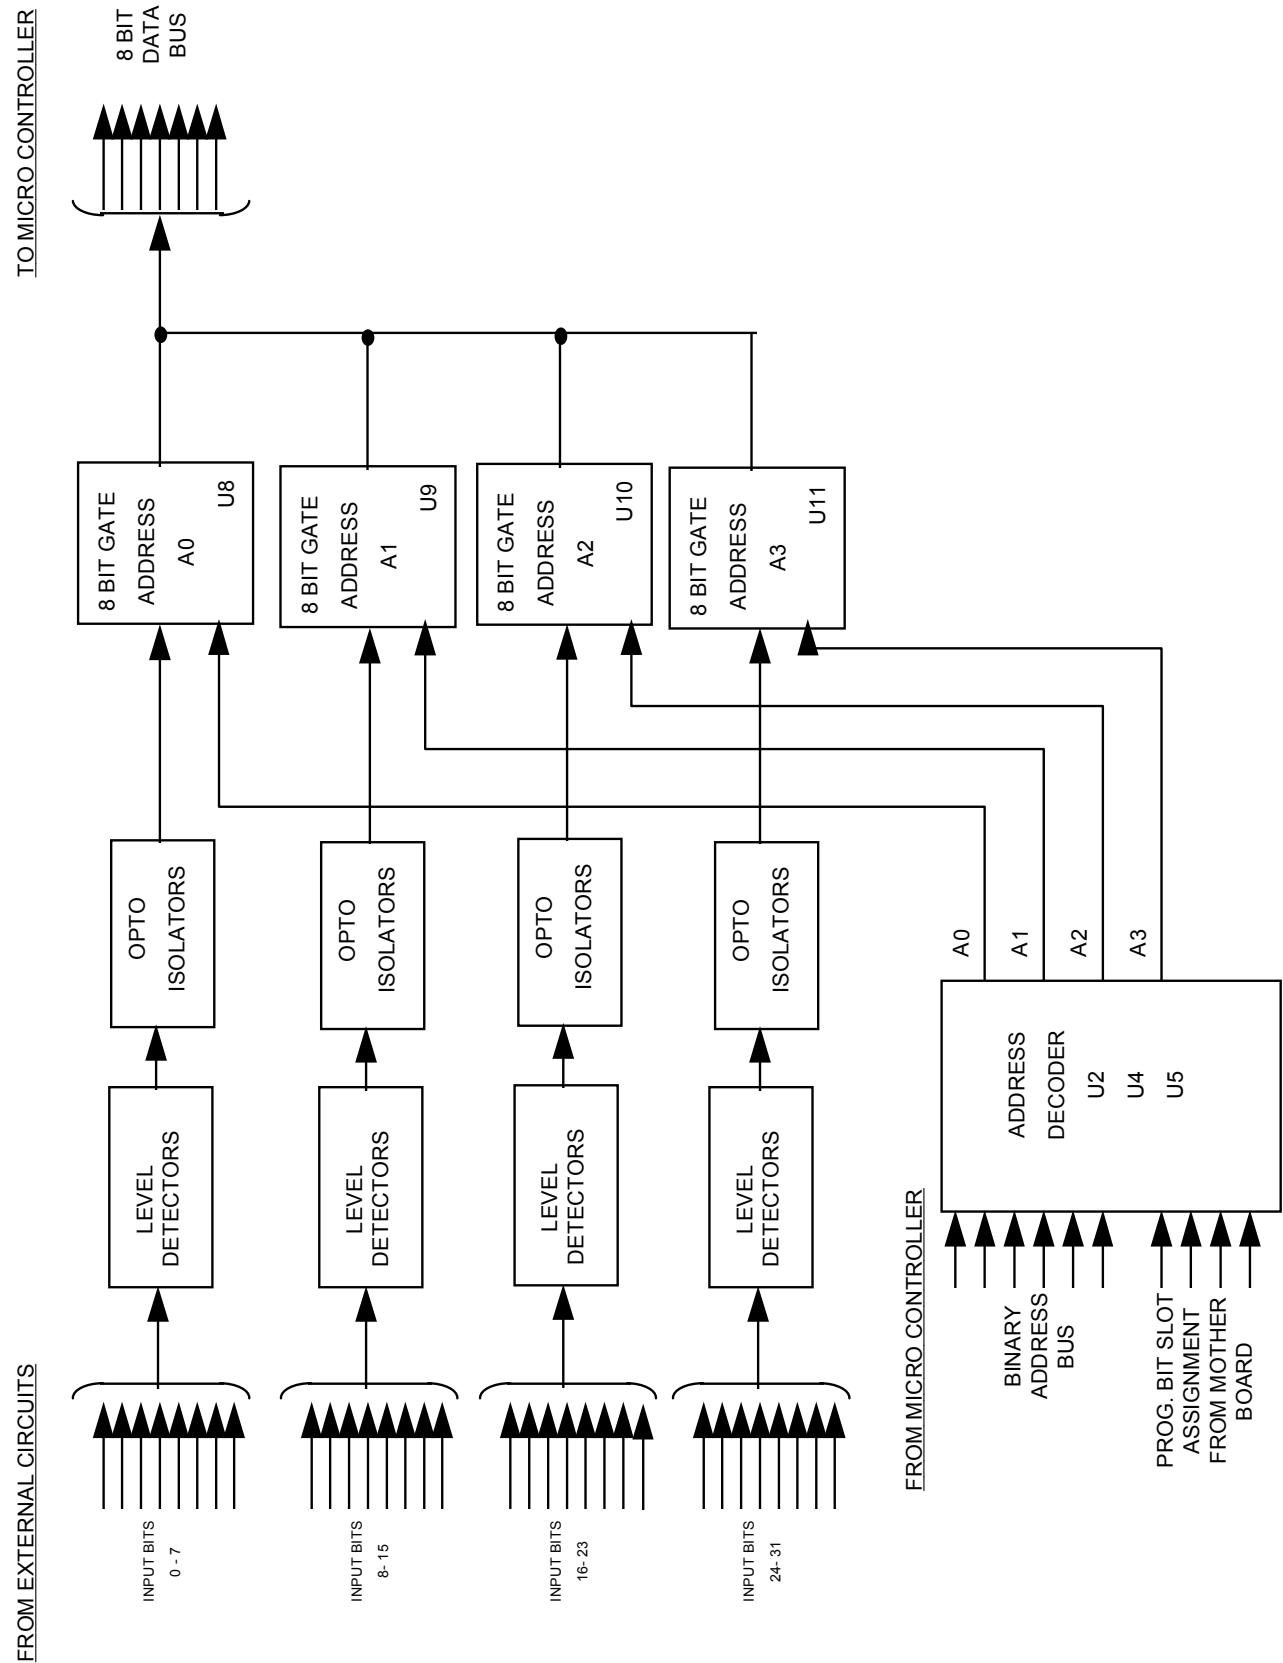

Figure 3-1. 32-Bit Input PCB Basic Block Diagram
3.1.2 Components and Basic Operation**3.1.2.1 32-Bit Input Board N451441-9701 (Ref. Figure 3-1)**